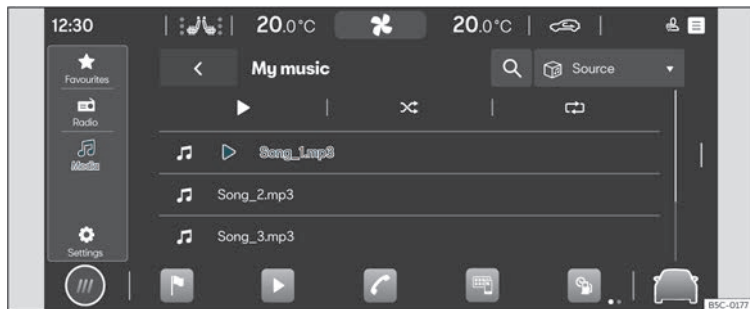

Fig. 132 Schematic representation: Multimedia view
- Press **HOME** > ► > 🎵 >>> Fig. 132.